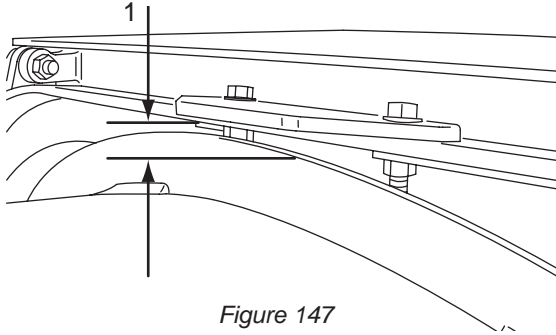

Figure 147
7. Check the debouncer-to-drip ring clearance (Figure 147, Item 1), the clearance should be  $\frac{3}{8}$  to  $\frac{1}{2}$  inch (10 to 13 mm) at the closest point.